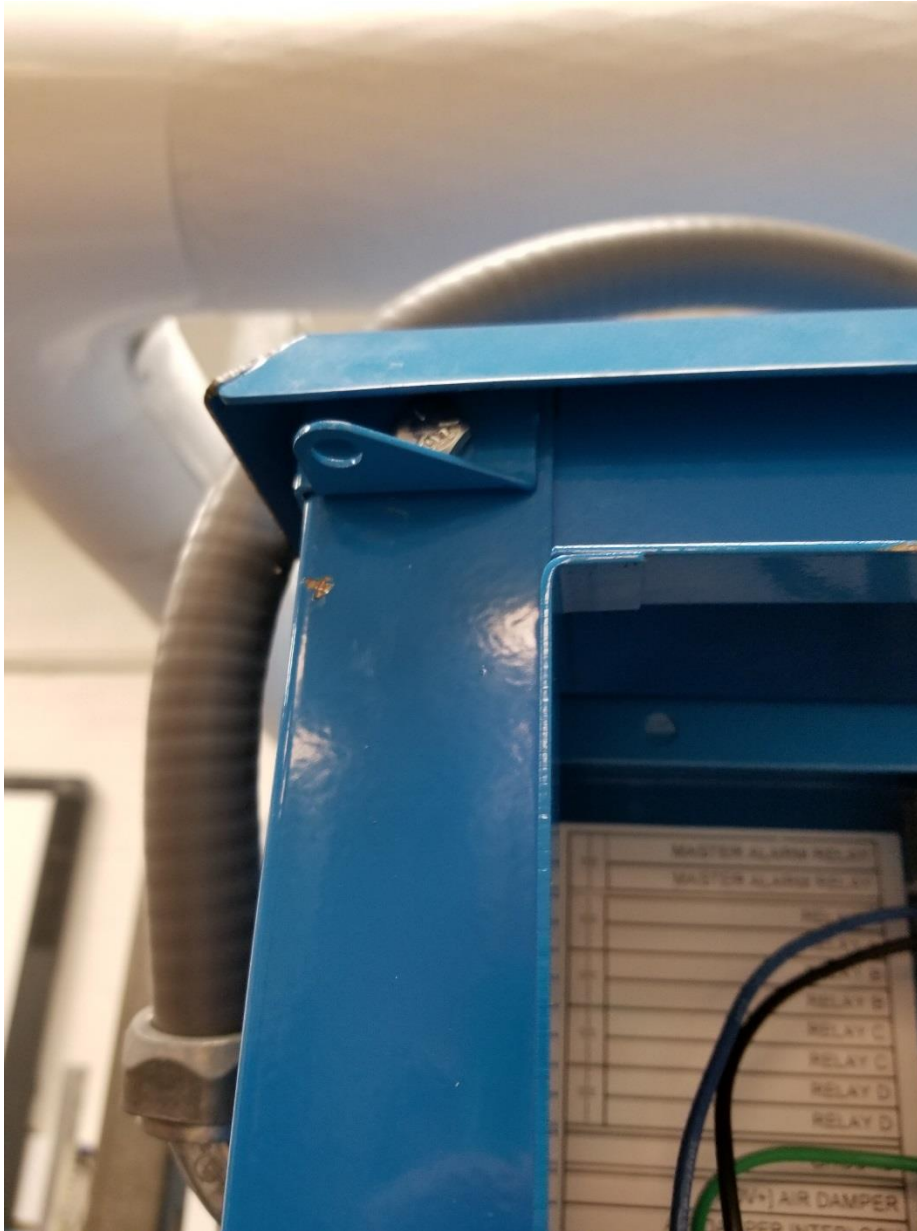

Figure 16
18. Install top bracket with 7/16" nut and bolt shown in figure 16.